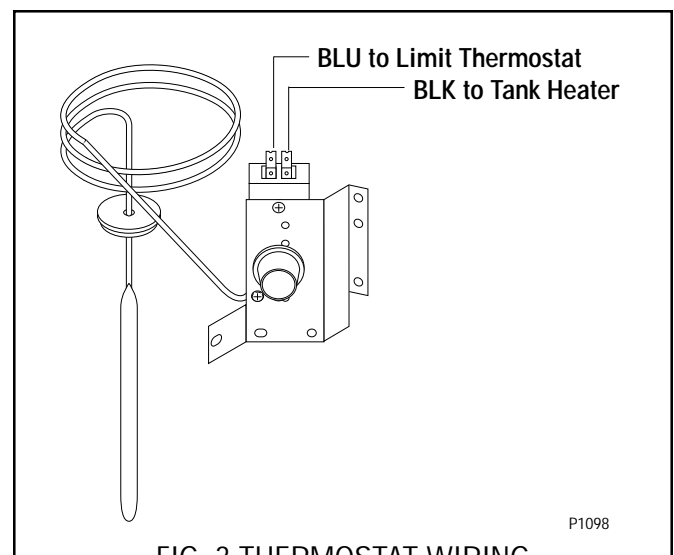

FIG. 3 THERMOSTAT WIRING
9. Refer to FIG. 3 when reconnecting the wires.